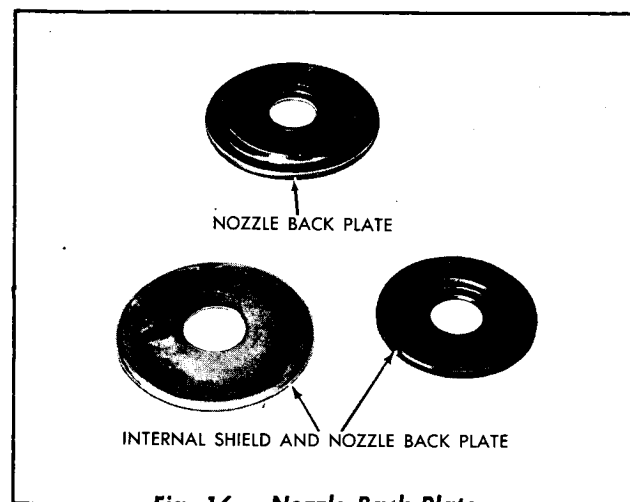

Fig. 16 — Nozzle Back Plate
- d. Remove nozzle back plate (Fig. 16).